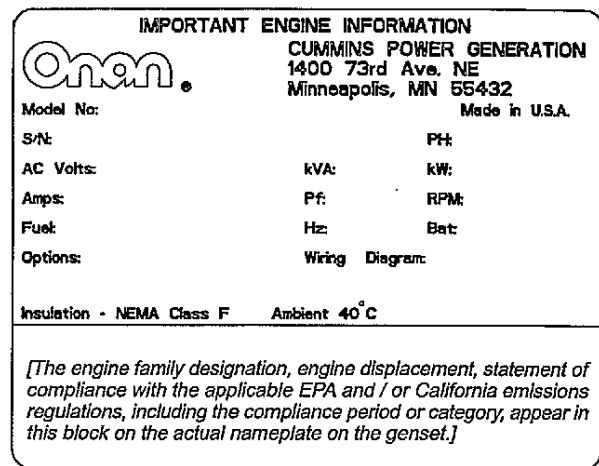

FIGURE 1. TYPICAL GENSET NAMEPLATE
**Purpose:** This supplement for the Operator's Manuals specified in Table 1 clarifies how compliance with engine emissions regulations, including U. S. EPA Phase 2 and California Air Resources Board regulations for Model Year 2000 onwards, is presented on genset and engine nameplates (Figures 1 and 2). This sheet is to be bound in the genset or engine manual behind the front cover and in front of earlier Supplements, if any.
**Nameplate Information:** See the Operator's Manual for the location of the actual nameplate on the genset or engine. Figures 1 and 2 illustrate where the information regarding compliance with U. S. EPA and California Air Resources Board regulations on the nameplate. The appropriate figure in this supplement supercedes the nameplate illustration in Figure 1 in the genset or engine manual in which the supplement is bound.